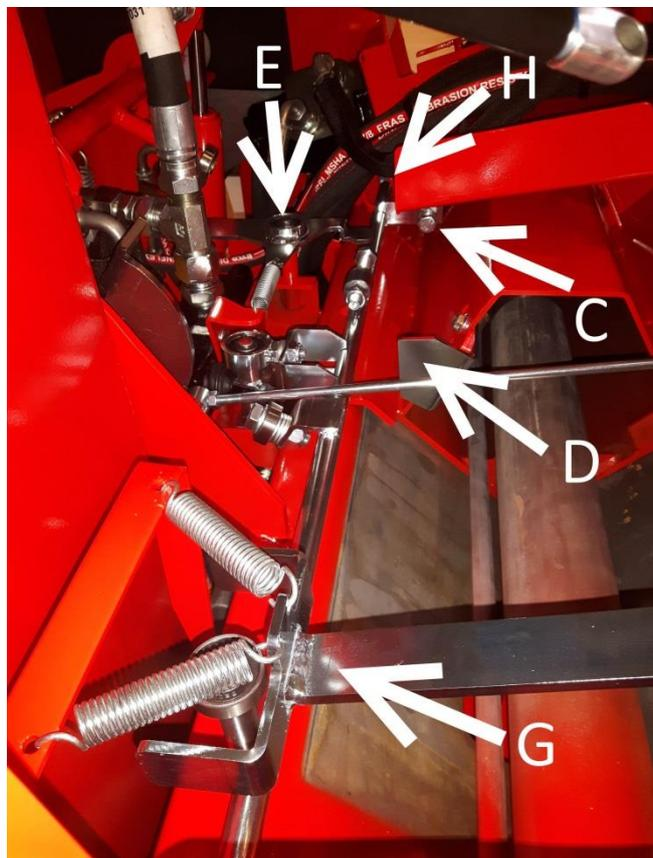
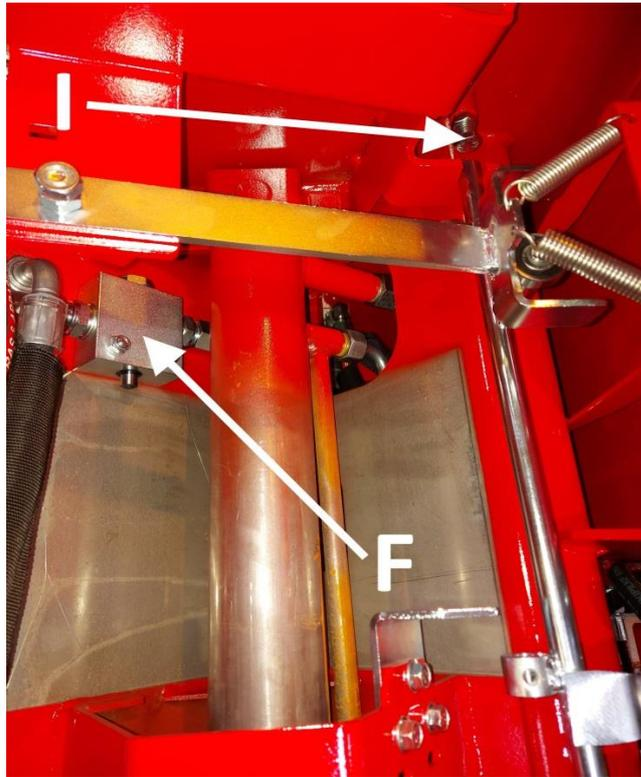

Figure 18
Figure 19
Note! Turn the limiter plate to the correct position according to the thickness of the log. (See Figures 18 and 19).
4. Adjustment screw **C** defines the stroke length of the splitting cylinder, i.e. the phase in which the splitting valve turns from the splitting position to the reverse position (Figure 18). If the stroke is too short, for example (i.e. the splitting cylinder does not go sufficiently close to the splitting blade), rotate adjustment screw **C** further in relation to plate **D** and vice versa.
5. Valve **F** (Figure 19) stops the cylinder after a splitting motion. The initial position cannot be adjusted.
Note: splitting lever **G** moves the same splitting bar as splitting activation lever **E**. (Figure 18)
The extreme positions of the splitting valve can be limited with bolts **H** and **I** (Figure 18 and Figure 19). The bolt adjustments should not be changed. Instead, worn bolts should be replaced with new ones!
7. Motion booster sleeve J and bar in Figure 19 (every 200 hours)